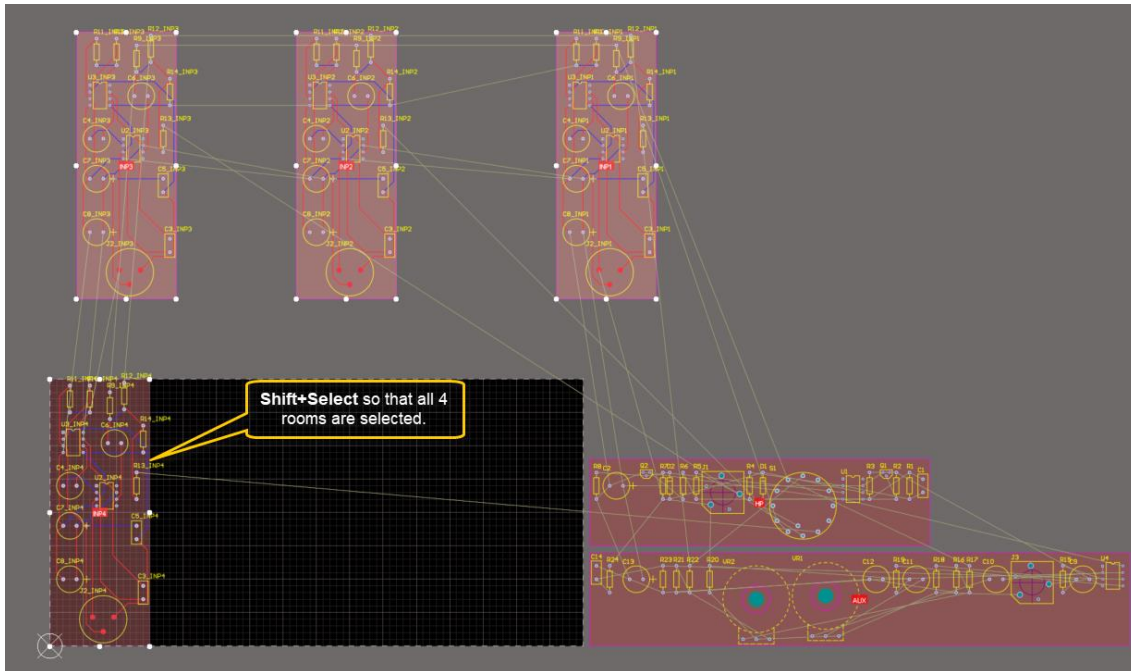

Figure 12. Selection of rooms for the re-arrangement
30. While the rooms are still selected, **Shift+select** to select room INP4, so that all of the INP rooms are now selected, as shown in Figure 12 below.